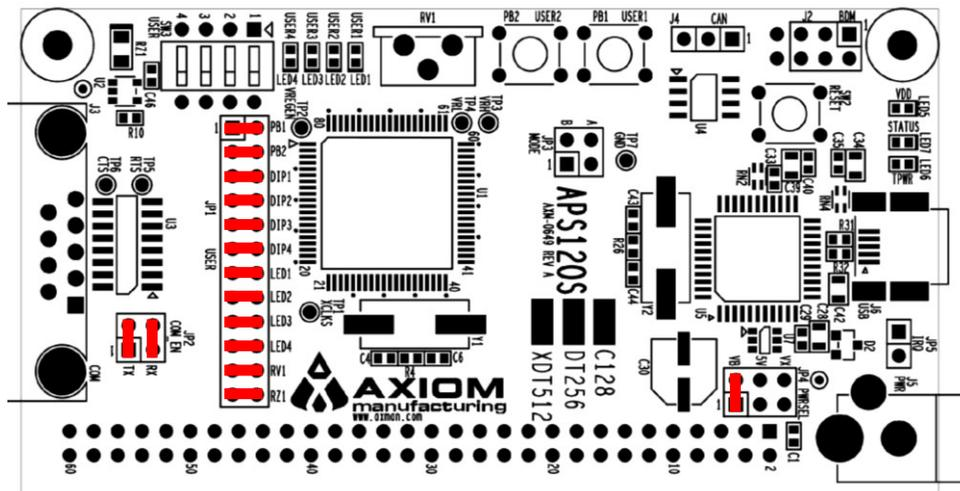

Figure 1: APS120S Default Option Settings
1. Verify the option jumpers are set in default positions. Refer to Figure 1 above.
- Ensure the option jumpers are set to default positions. Refer to Figure 1 above. Specifically, ensure the PWR\_SEL option jumper is set correctly.
- If keystrokes do not echo in the terminal window, ensure the terminal program is correctly configured, and the serial cable is attached to the COM port. Additionally ensure the COM\_SEL jumpers are set properly, refer to Figure 1 above.